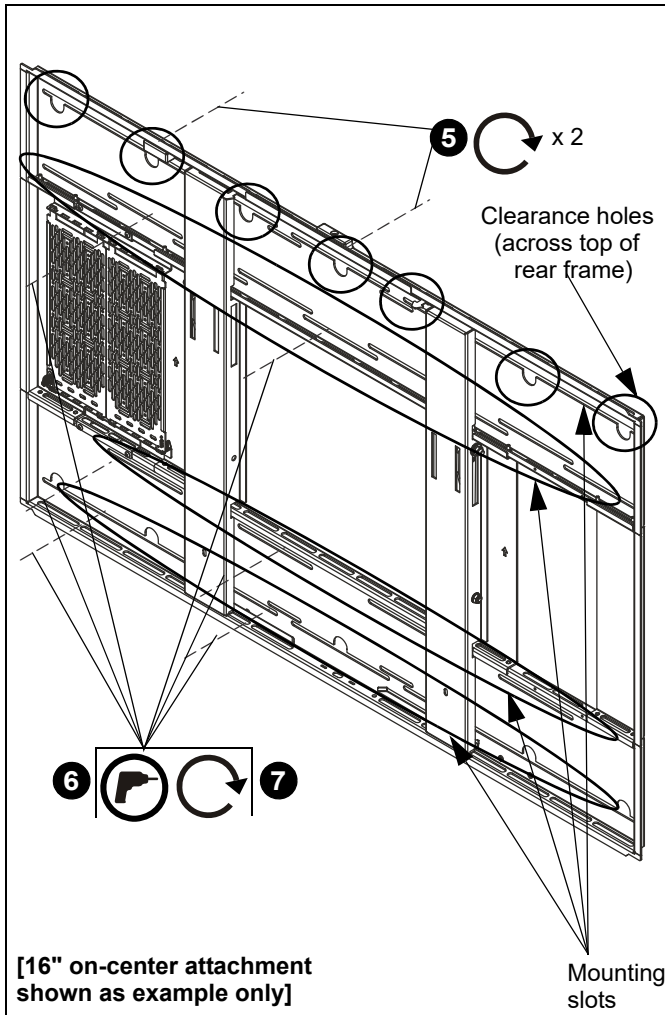

Figure 5
4. Hang rear frame, aligning upper mounting slot clearance holes over fasteners and adjust side-to-side for proper location. (See Figure 5)
6. Drill six remaining pilot holes (see Table 1 for size) at attachment locations and follow fastener information (appropriate for wall type) located in Table 1. (See Figure 5)